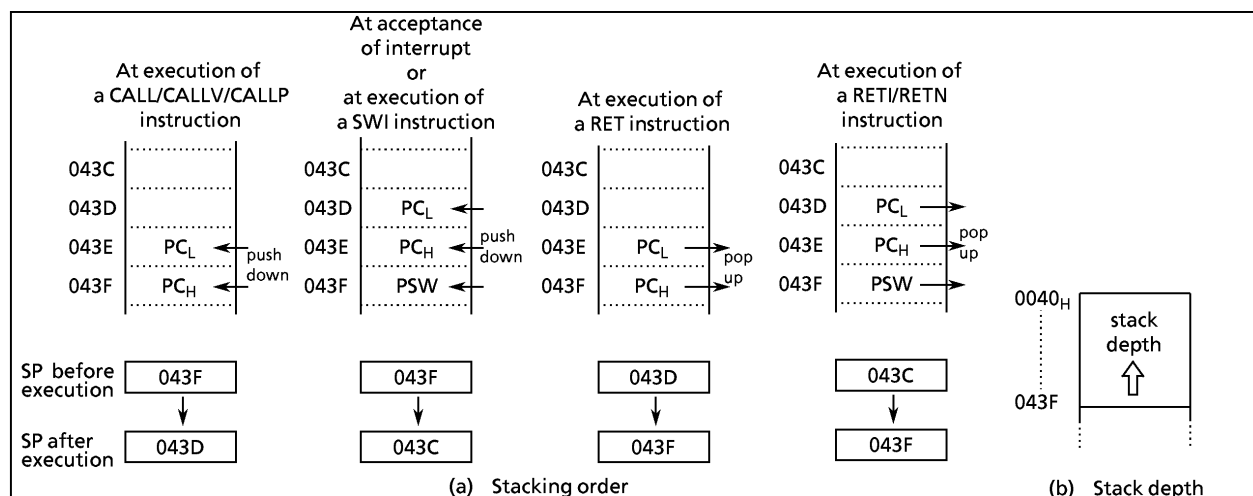

Figure 1-9. Stack
The stack pointer (SP) is a 16-bit register containing the address of the next free locations on the stack. The SP is post-decremented when a subroutine call or a push instruction is executed, or when an interrupt is accepted; and the SP is pre-incremented when a return or a pop instruction is executed. Figure 1-9 shows the stacking order.